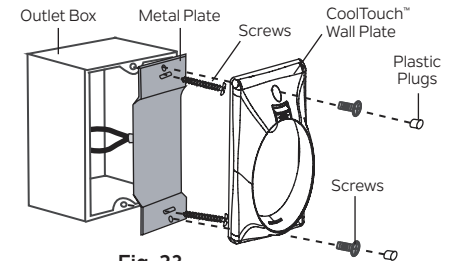

Fig. 23
Step 2. Install the metal plate and CoolTouch™ wall plate to the existing wall outlet box with 4 screws provided. Insert the two plastic plugs into the wall plate. **(Fig. 23)**